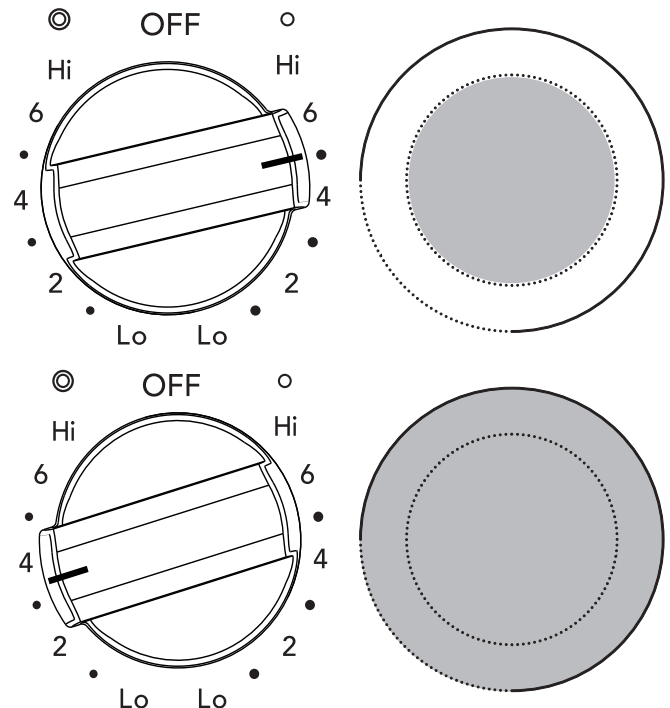

Figure 9: Dual element knob settings
2. Push in and turn the surface control knob clockwise to begin heating both the inner and outer elements. If only the inner element is needed for smaller cookware, push in and turn the knob counter-clockwise (see Figure 9).